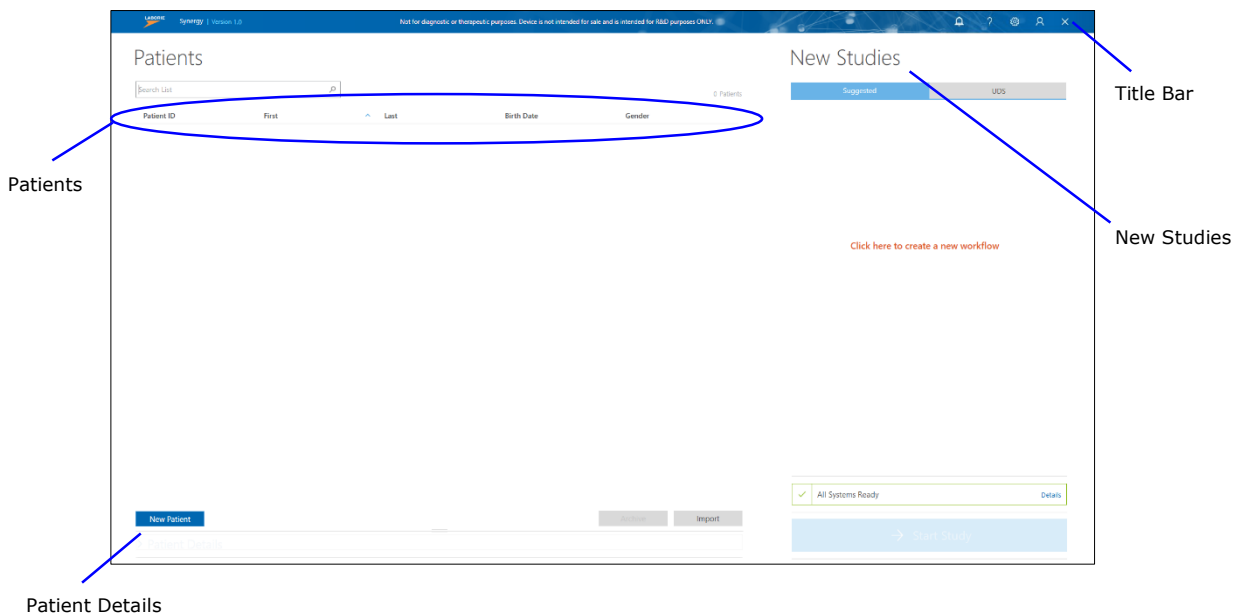

Figure 33: Synergy Main Window Reading Guide
1. Click the Admin icon  located on the Synergy title bar and select **User Setup** (Figure 33).
A brief overview of the sections in the **Main Window** is provided in Table 2. Refer to Figure 33 for a visual guide showcasing the location of all sections described.
A brief description of the icons located on the **Title Bar** in the **Main Window** is provided in Table 3 below. Refer to Figure 33 for a visual guide showcasing the location of all sections described.